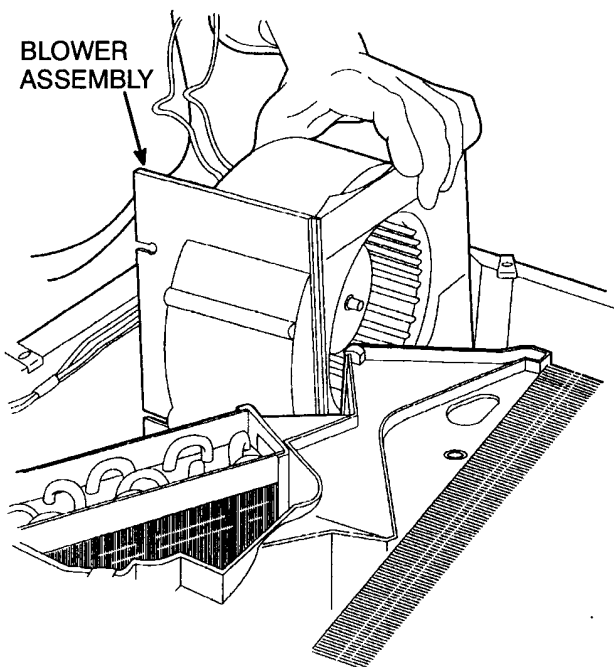

Figure 39 Blower Housing Assembly Remove/Install
7. Slide the blower housing back and up to remove (Figure 39).
3. Position blower motor housing in Blend-Air unit (Figure 39), and reconnect the electrical connector to the motor.